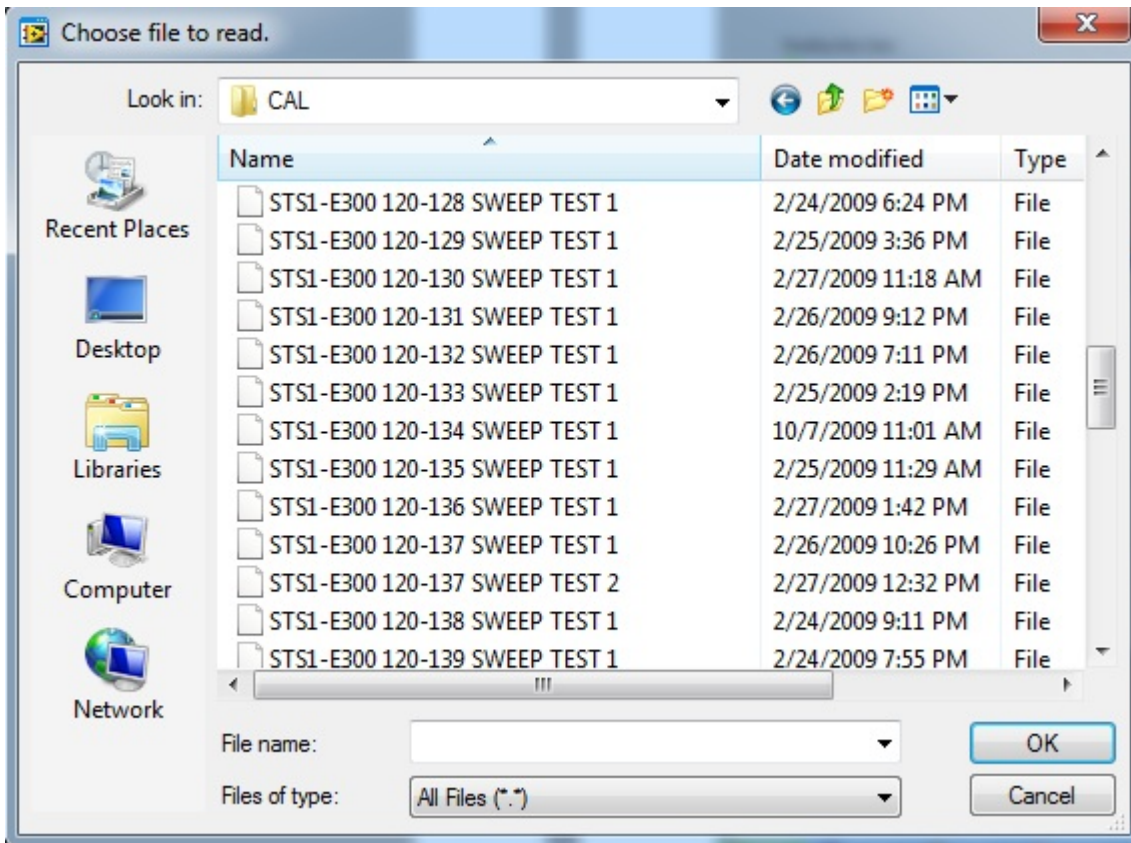

Figure 13. Screen shot of “HF Data Rate Input Window 1.vi”
- k. A dynamic window “HF Data Rate Input Window 1.vi” opens. This is shown in Figure 13. The user enters the proper raw data rate and hits the “ENTER and Proceed” button when it is correct. The user also has option to alter the filtering and grid search parameters, though this is not recommended during normal analysis.
The next prompt, Figure 24, should be a familiar prompt, it is almost identical to Figure 5 and Figure 13 of the previous CALEX-MZ examples, but missing from the prompt in Figure 24 is the data rate input control; the data rate in CALEX-MZ-MSEED has been determined by that of the ASCII header in each file and can be seen in the header display in the previous window, Figure 23.